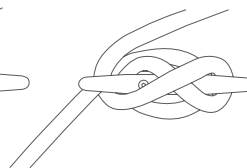

Fig 63 -
2. Then on top of the full loop make a figure of eight and pull tight (Fig 63).